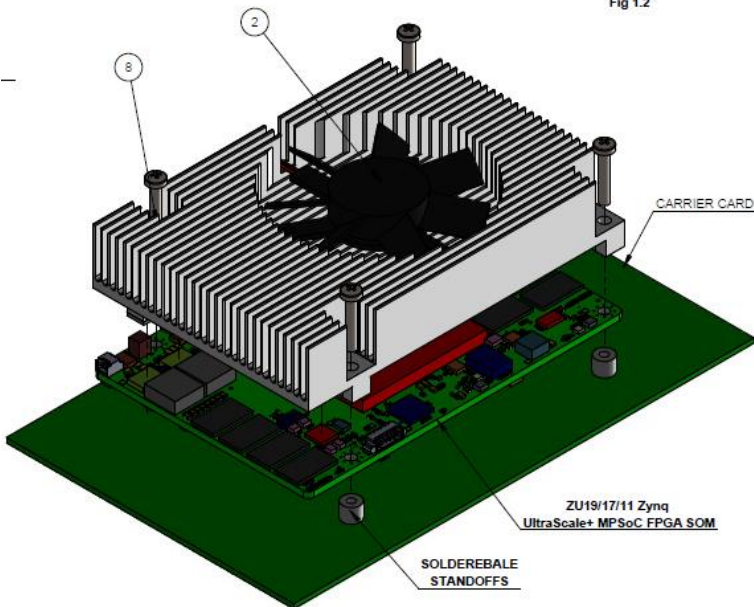

Fig 1.1
7. PUT THE SCREWS FROM TOP OF THE FAN SINK AND TIGHTEN THEM TO HAND TIGHT(REFER Fig1.1).